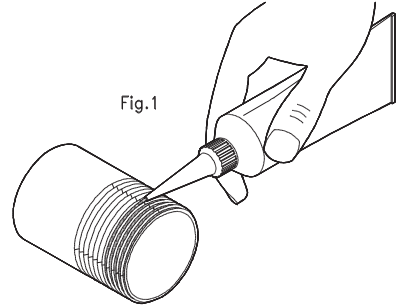

Fig.1
To avoid losses we ask to the installer to apply a motor silicone gasket - fig. 1:
9.4 The air/oil separator to make it to work properly, it must be screwed over the output of the vacuum pump. (Fig.1)
- (Fig. 1) Remove the empty container with the lid up